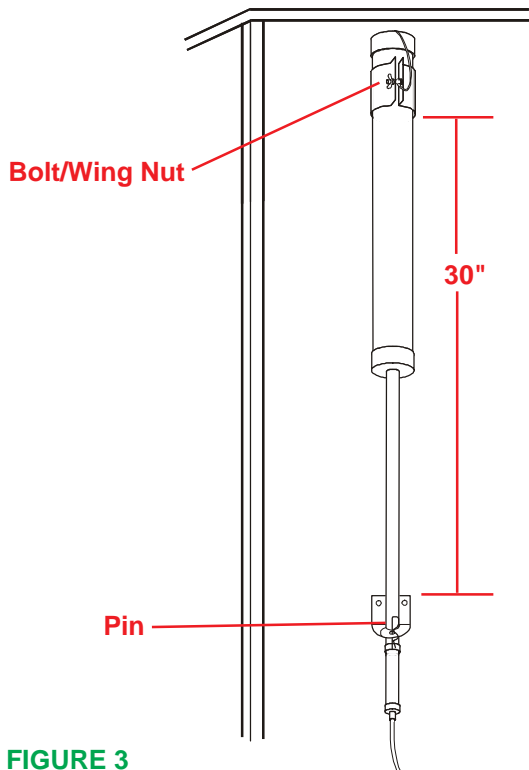

FIGURE 3
**Step 3.** Place antenna tube in bracket and install bolt through bracket and end of retaining strap for plastic cap, Figure 3. Tighten wing nut.
**Step 4.** Install lower bracket 30" below top bracket with screws provided, Figure 3.